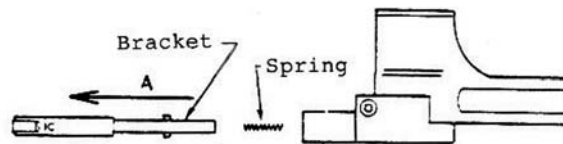

Figure 6
2. Pull out bracket in direction labeled A, Figure 6. Be careful not to lose the spring.